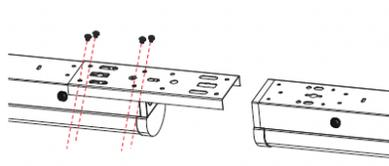

Fig. 24
3. Install the connection bracket at the end of one fixture with screw (Fig. 24).